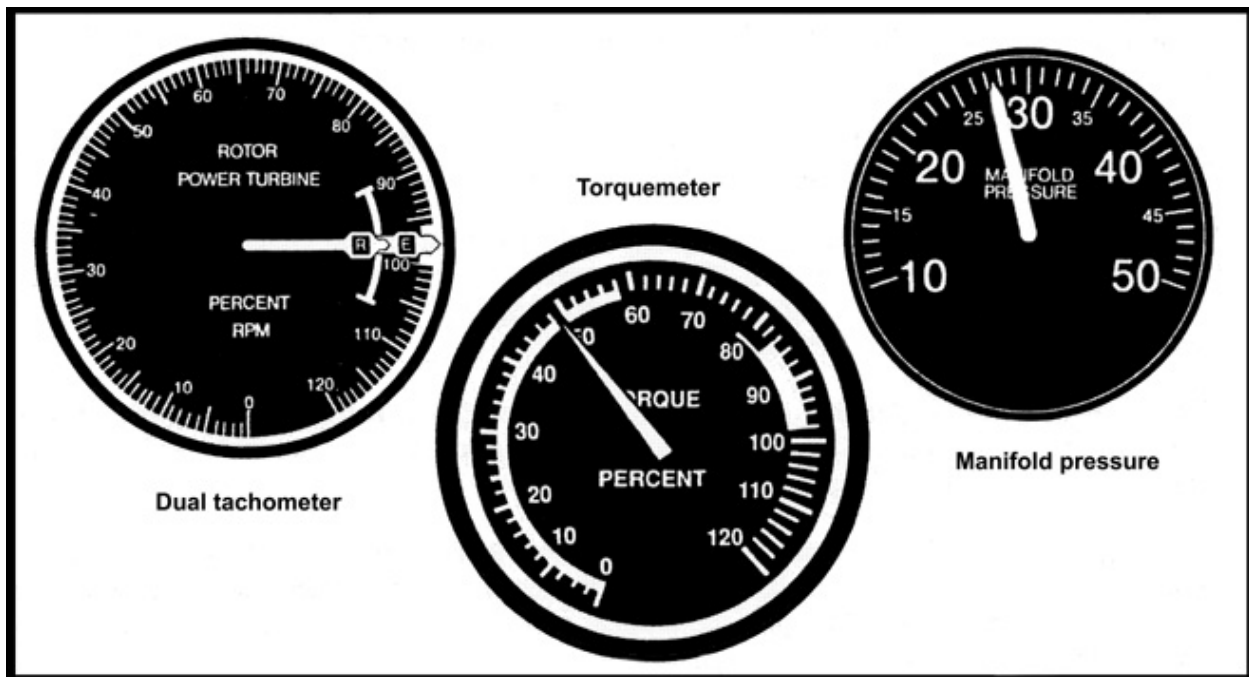

Figure 1-2: Engine Instruments
1. **DUAL TACHOMETER.** This instrument indicates the number of revolutions per minute (RPM) that both the engine (ERPM) and the rotor blades (RRPM) are making. A separate needle is provided for each. In powered flight the needles are joined or 'married'. In autorotation the needles are split. A turbine-engined helicopter's dual tachometer is expressed as a percentage with 100% being the normal operating speed. (Fig 1-2).
2. **MANIFOLD PRESSURE GAUGE.** This instrument is calibrated in inches of mercury and indicates the pressure in the intake manifold of the engine. Stated more simply, it indicates the amount of work the engine is doing; the higher the manifold pressure (MP) the more work the engine is doing, and vice versa. This instrument will only be found on piston-engined helicopters.